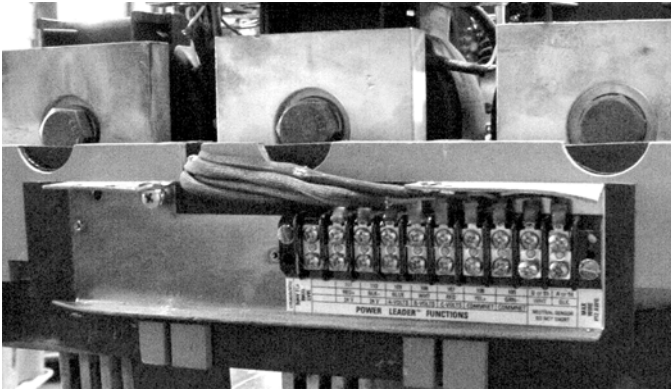

Figure 1. Old terminal board mounted on the breaker (2500–4000 A shown).
5. Disconnect the leads to the terminal board and bracket assembly, shown in Figure 1.